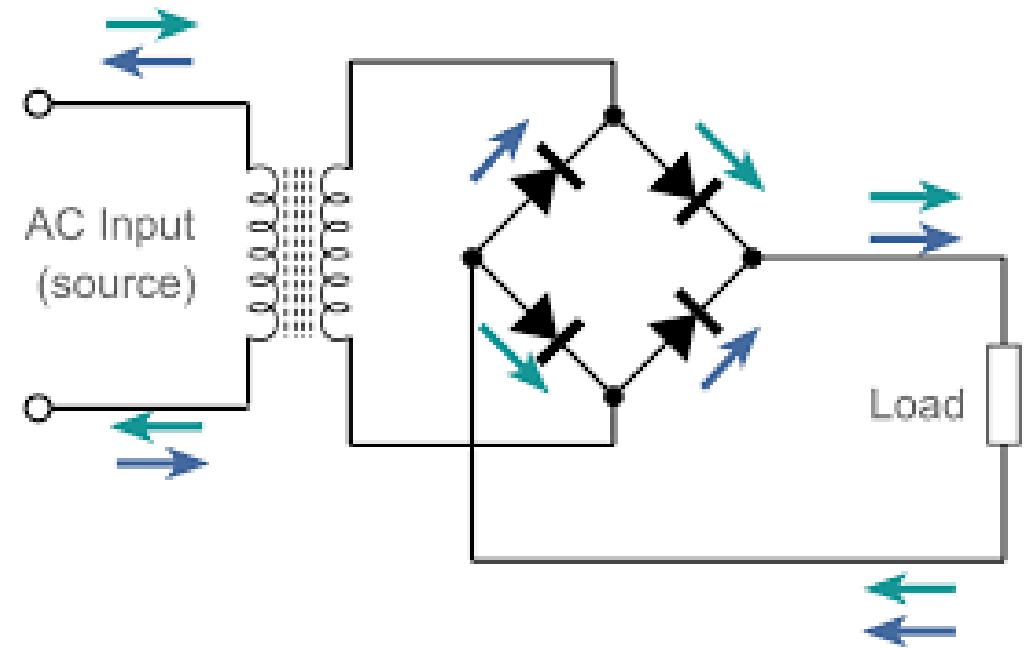

Fig. 12: Bridge rectifier with Transformer
- A bridge rectifier with a transformer-coupled input is shown in Figure 12. During the positive half-cycle of the total secondary voltage, diodes D1 and D2 are forward-biased while diodes D3 and D4 are reverse-biased during the negative half-cycle.